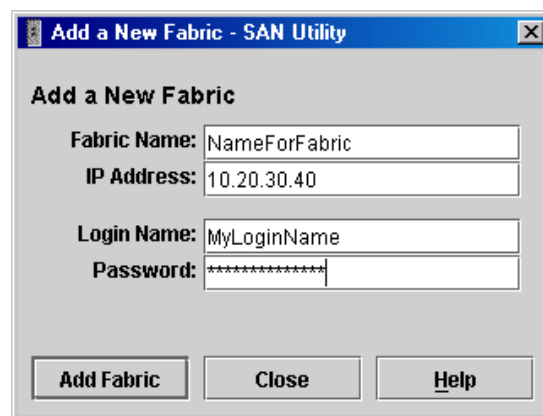

Figure 3-11. Add a New Fabric Window
1. Open the Fabric menu and select **Add Fabric** to open the Add a New Fabric window as shown in Figure 3-11.